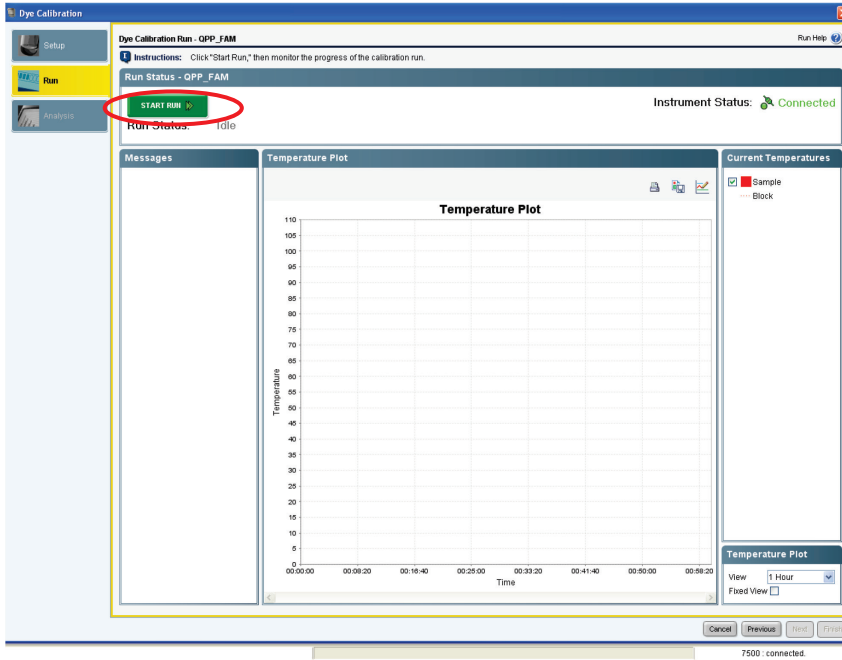

Figure 8. Starting calibration run.
19. Click **Next** and then **Start Run** (Figure 8).